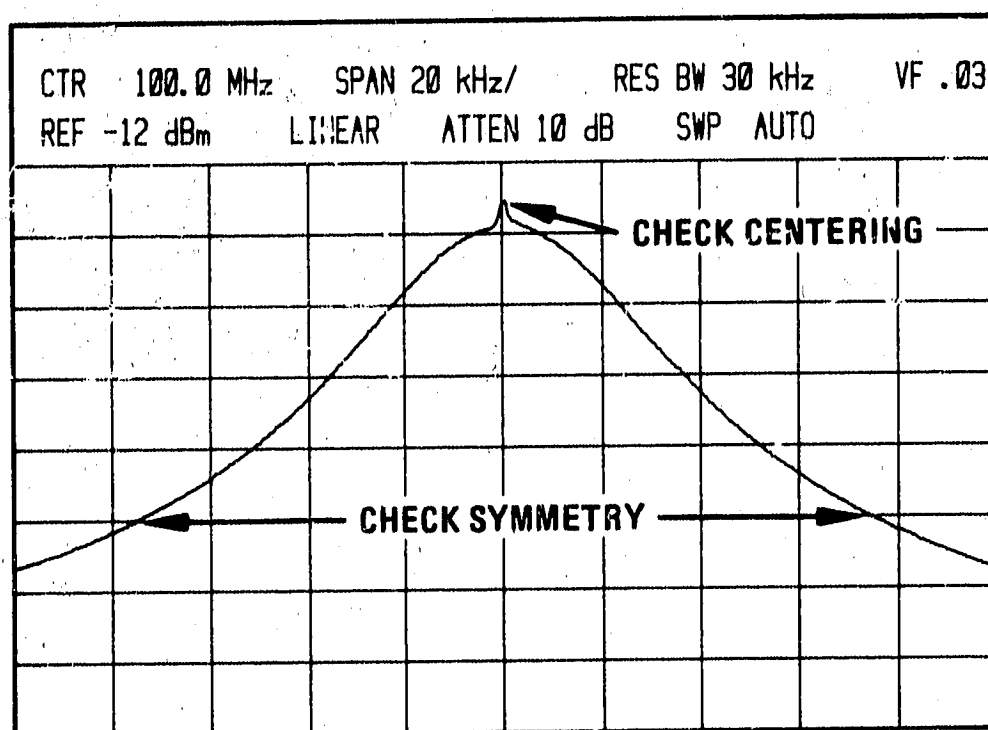

Figure 5-23. Crystal Filter Adjustment
5. Adjust front-panel TUNING control to center bandpass spike (Figure 5-23) on CRT display.
6. Adjust A23C54 CTR and A23C38 SYM (Figure 5-22) for a centered and symmetrical bandpass. Crystal center adjustment A23C54 is adjusted for minimum signal amplitude (Figure 5-23).
8. Adjust A23C25 CTR and A23C15 SYM for a centered and symmetrical bandpass. Adjust A23C25 CTR for minimum signal amplitude (Figure 5-23).
10. Adjust A27C54 CTR and A27C38 SYM for a centered and symmetrical bandpass. Adjust A27C54 CTR for minimum signal amplitude (Figure 5-23).
12. Adjust A27C25 CTR and A27C15 SYM for a centered and symmetrical bandpass. Adjust A27C25 CTR for minimum signal amplitude (Figure 5-23). Remove all crystal shorts from spectrum analyzer.